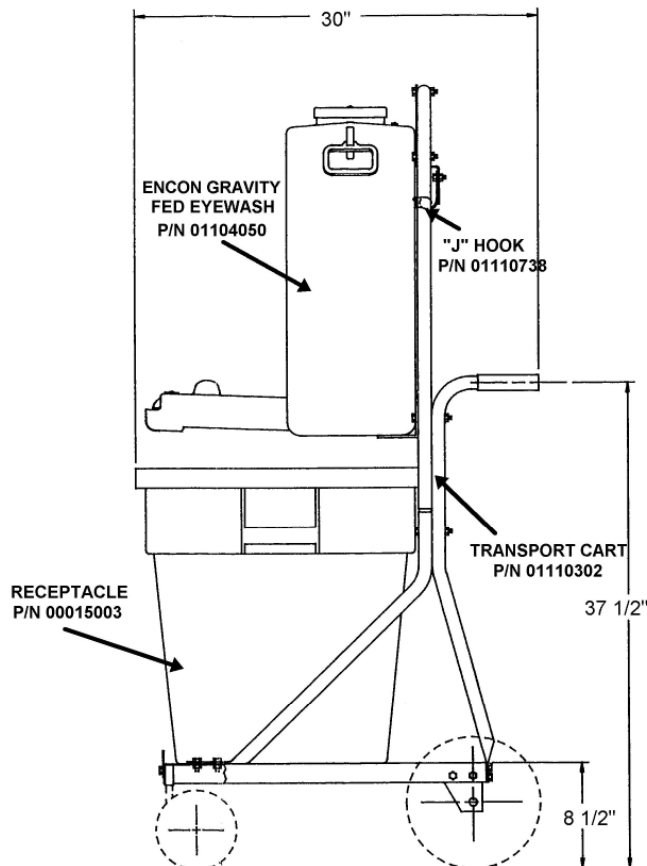

FIGURE 5 - SIDE VIEW
12. Place Gravity Fed Eyewash and receptacle on cart as shown in Figure 5 below. Installation instructions for Gravity Fed Eyewash unit is on page 4.